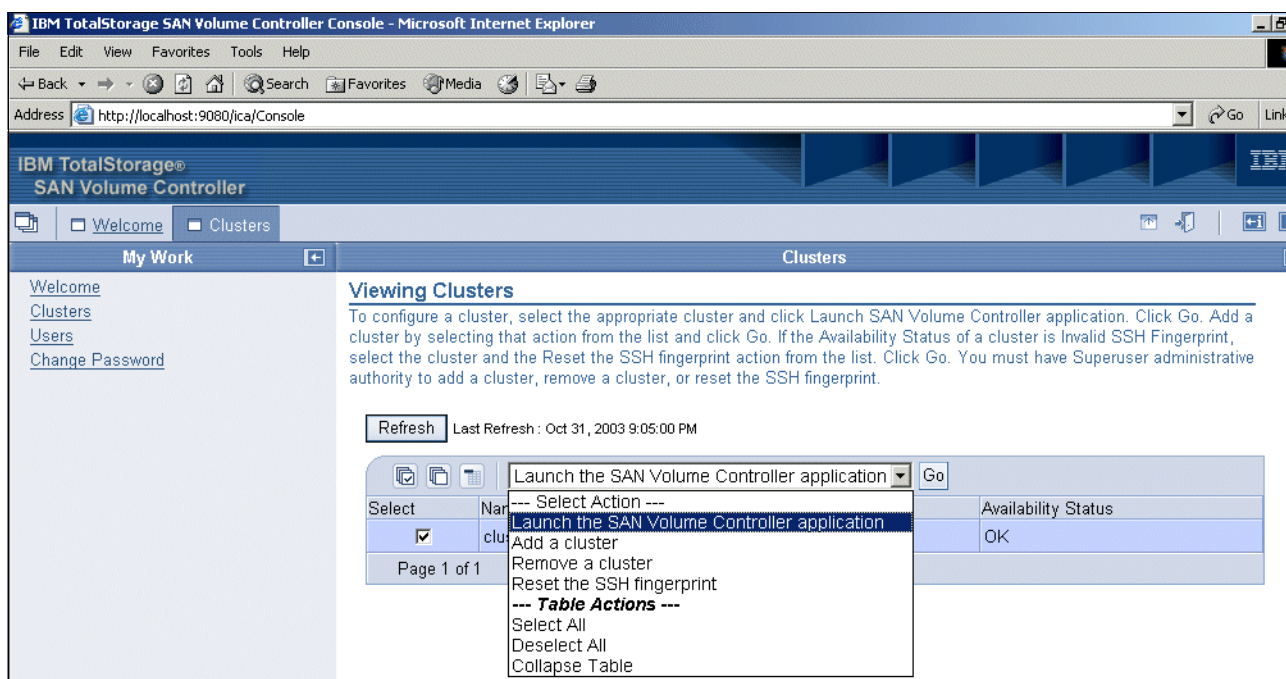

Figure 6-9 Selecting to launch the SAN Volume Controller application
- On the Viewing Clusters panel (Figure 6-9), select the check box next to the cluster on which you want to perform actions (in our case **REDSTONE1**). Select **Launch the SAN Volume Controller application** from the list and click **Go**.